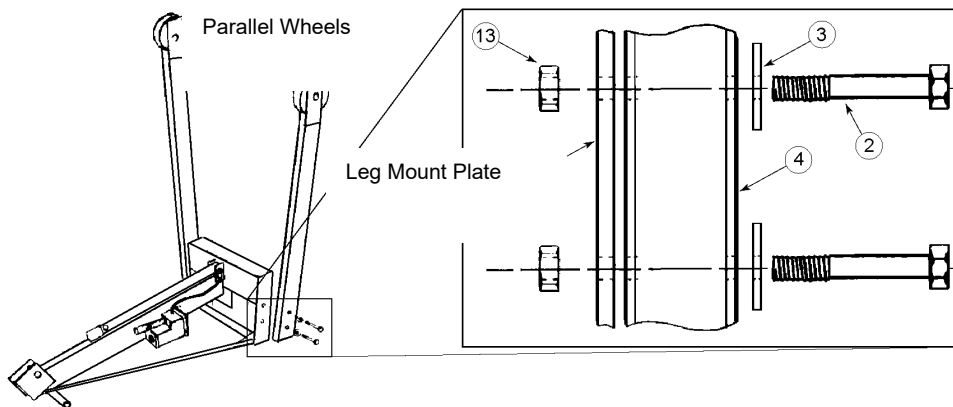

Figure 1 & Figure 2
- Step 1: Step #1: Place tower on floor, push-handle down. See figure 1.
- Step #2: Attach each leg (item 4) using two 3/8-16x3" grade 5 bolts (item 2), flat washers (item 3), and lock nuts (item 13) as shown. Wheels should be parallel when assembled properly. See figures 1 & 2.